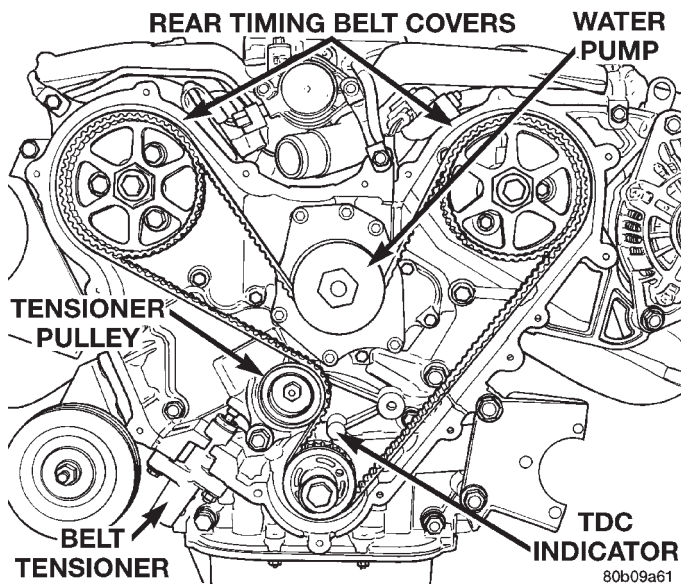

Fig. 68 Timing Belt System
(10) Remove the timing belt tensioner (Fig. 68) and remove timing belt.